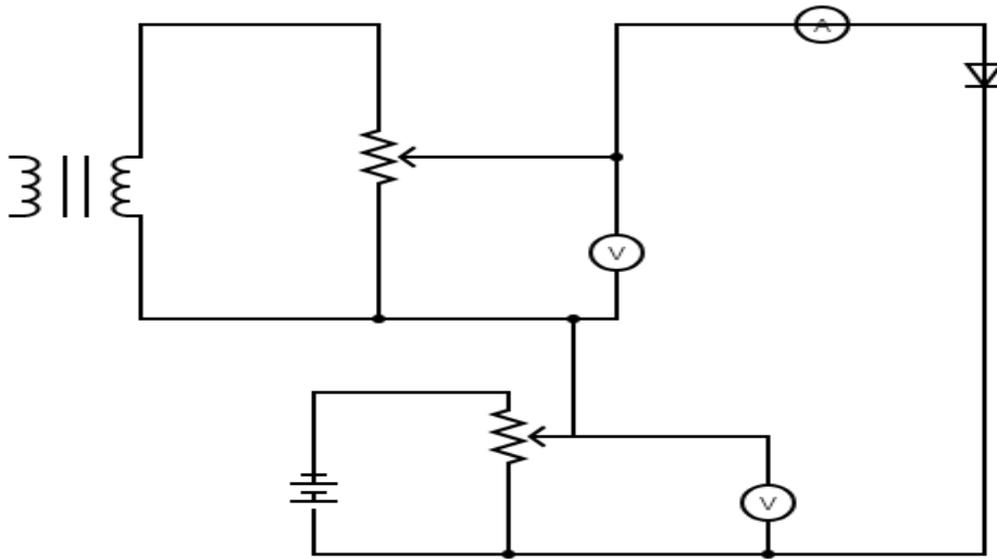

Figure 3
1. Make connection the circuit as shown in figure 3.